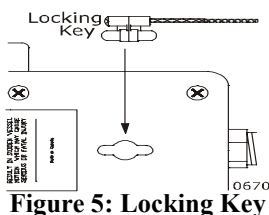

Figure 5: Locking Key
- The locking key of the lanyard has been reinstalled in the Handheld Unit socket (refer to Figure 5:)